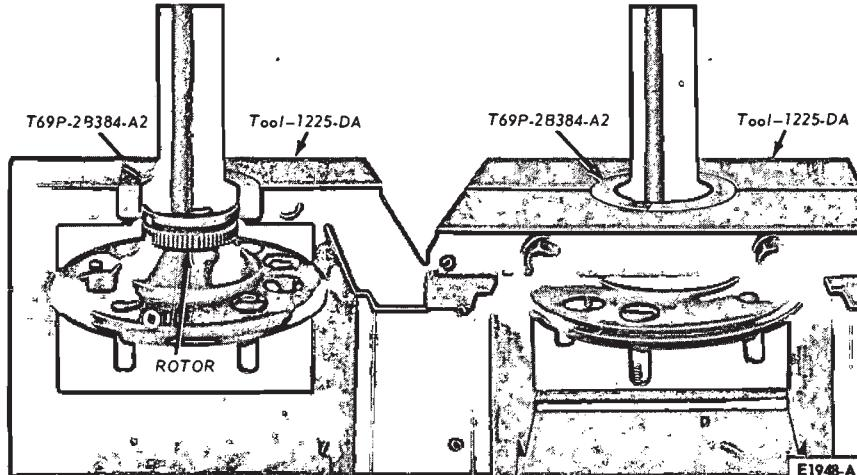

FIG. 8—Sure-Track Brake Rotor Removal
3. If the axle shaft is to be replaced, and if equipped with Sure-Track brakes (Lincoln Continental, Continental Mark III and Thunderbird), press the rotor off the shaft as shown in Fig. 8.